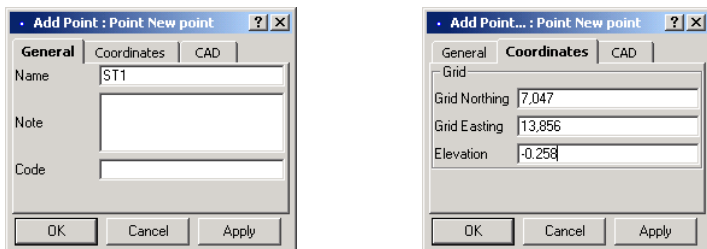

Figure E-3. Add Point – Enter Name and Coordinates
2. Enter the point's *Name* and *Coordinates*, and click **Ok** (Figure E-3).